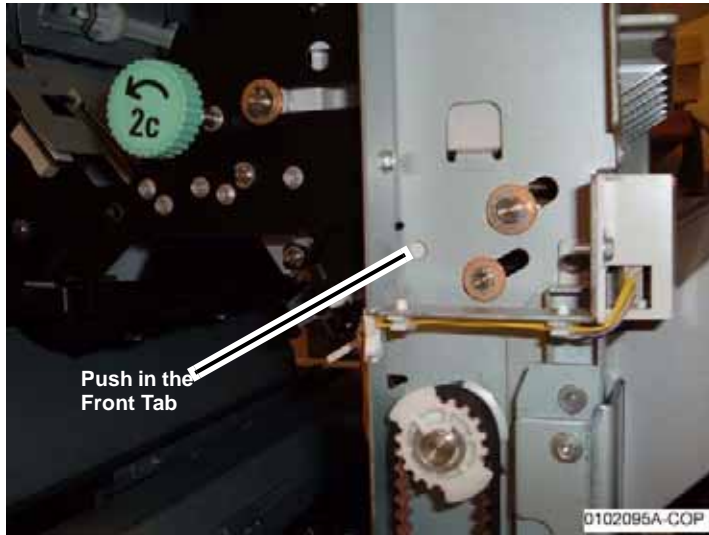

Figure 3 Pushing in the Front Tab
- a. Push in the Front Tab (Figure 3).